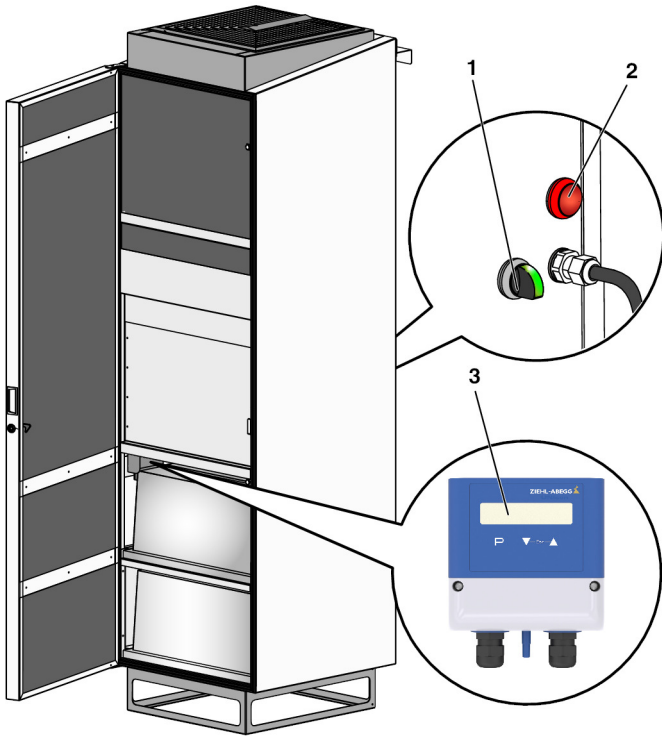

Fig. 12: Status LEDs
2. ▶ Switch the unit on at the mains isolator (Fig. 12 /1).
- ▶ Use the mains isolator to switch off the unit (Fig. 12 /1).